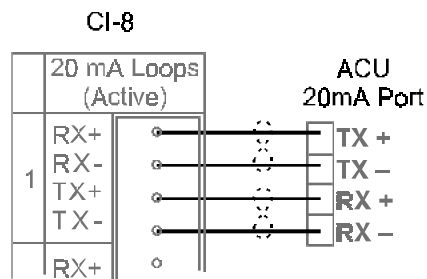
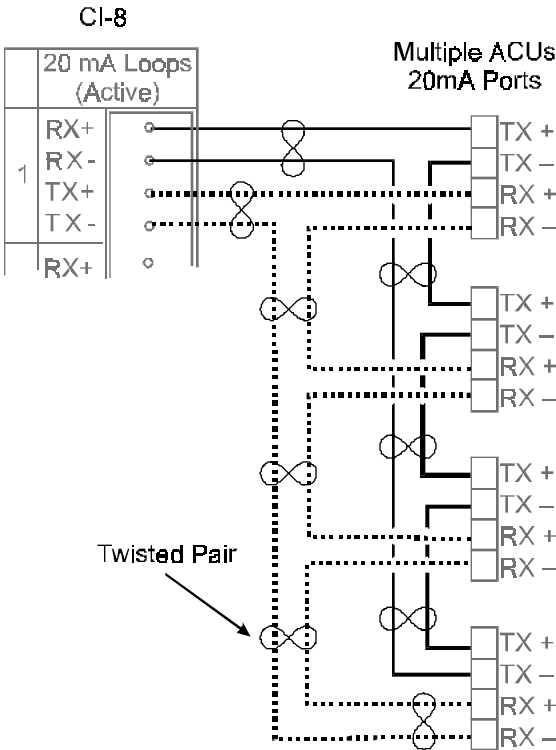

Figure 2-5: Single ACU 20mA Loop Connection
Figure 2-6: Multiple ACUs on a CI-8 20mA Port
Figure 2-5 shows a single ACU connected to a 20mA port on the CI-8. Each CI-8 20 mA port can support a maximum of four ACUs; wiring for multiple ACUs is shown in Figure 2-6.
2. Check that the correct wire type has been used for the 20mA loop connections. Check for correct wiring; TX- and TX+ should use one twisted pair, RX- and RX+ should use the other twisted pair. See Figures 2-5 and 2-6.